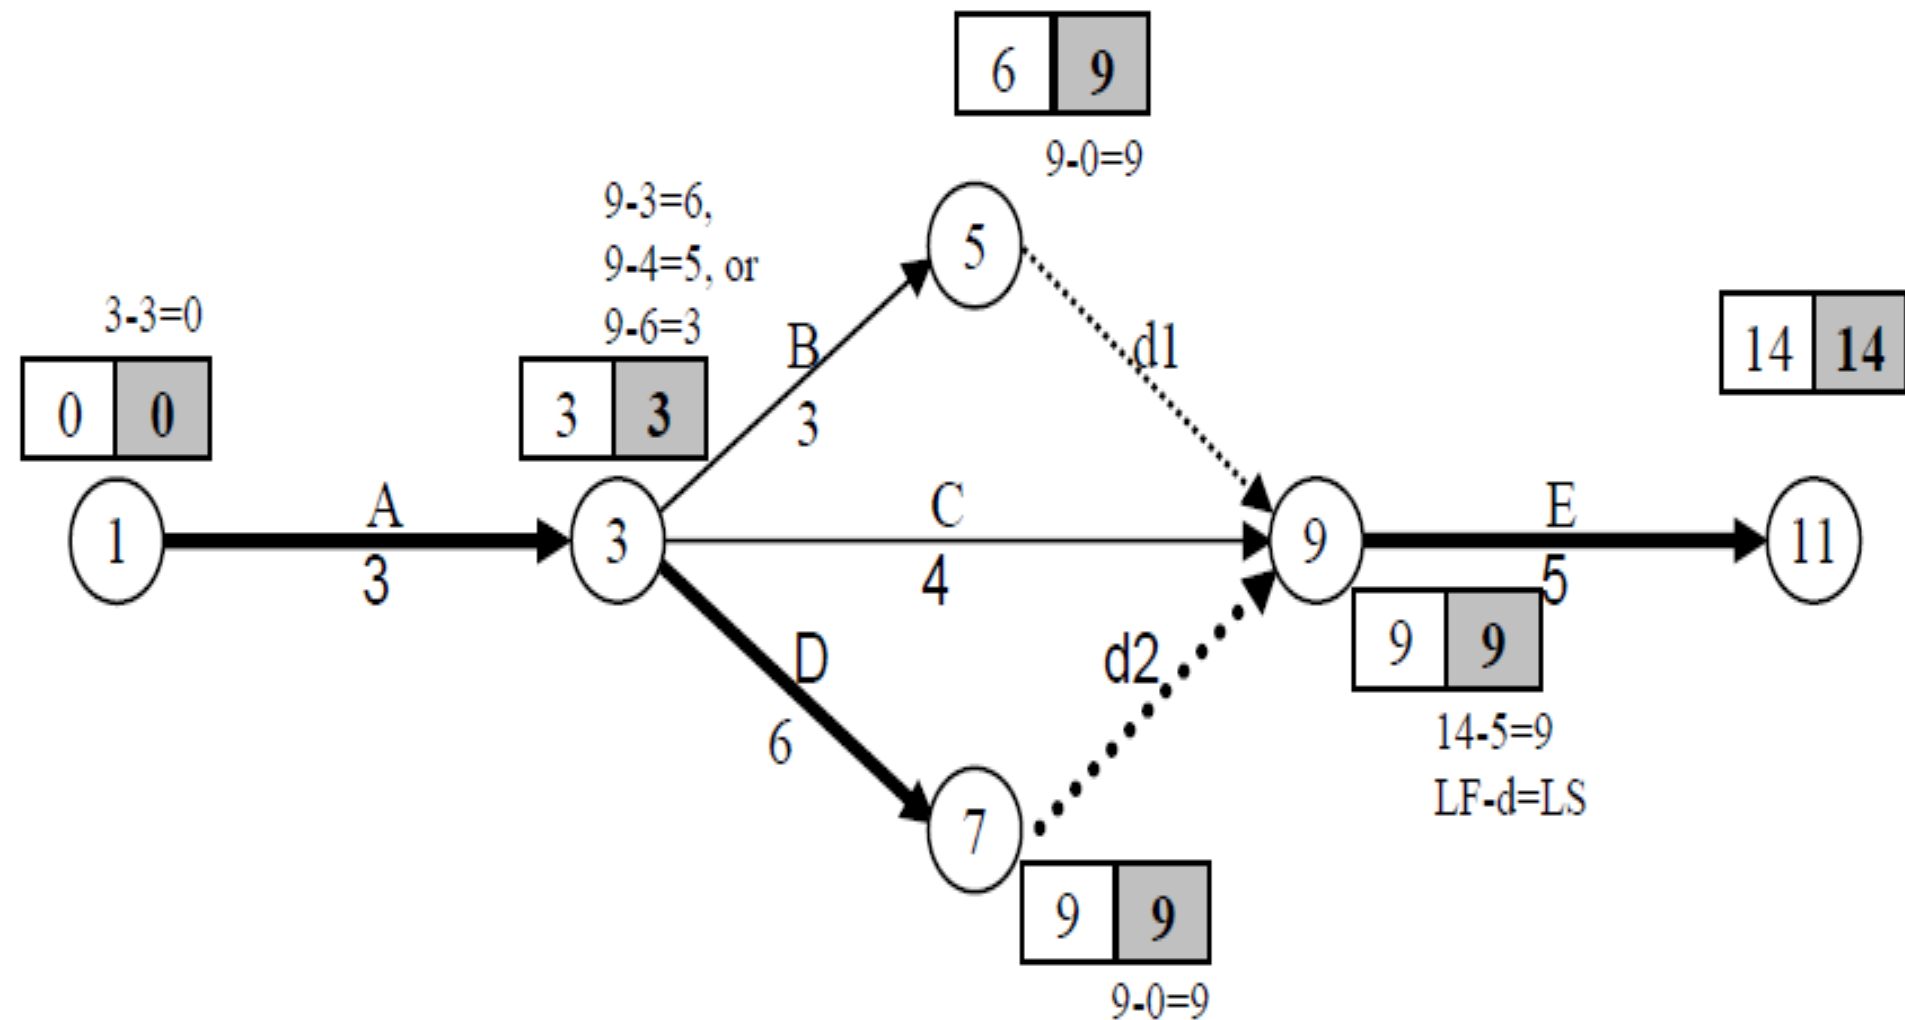

Figure 6: Backward path calculations in AOA networks
- ❖ The backward path determines the late-finish (LF) times of activities by proceeding backward from the end node to the starting node of the AOA network.
- ❖ We put the LF value in the right side boxes adjacent to the nodes as shown in Figure 6.